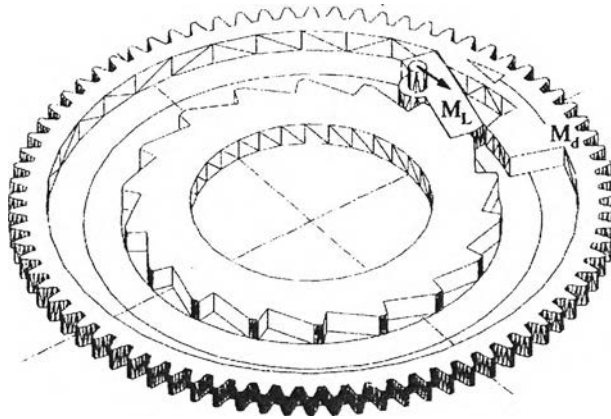

Figure 4.3 Drawing for ratchet gear
1. Gear moment (M_d) applied on outer gear counter clockwise till tip of inner gear attaches on ratchet mechanism. Moment of torsion spring (M_L) applied on pin of ratchet clockwise show in figure 4.3